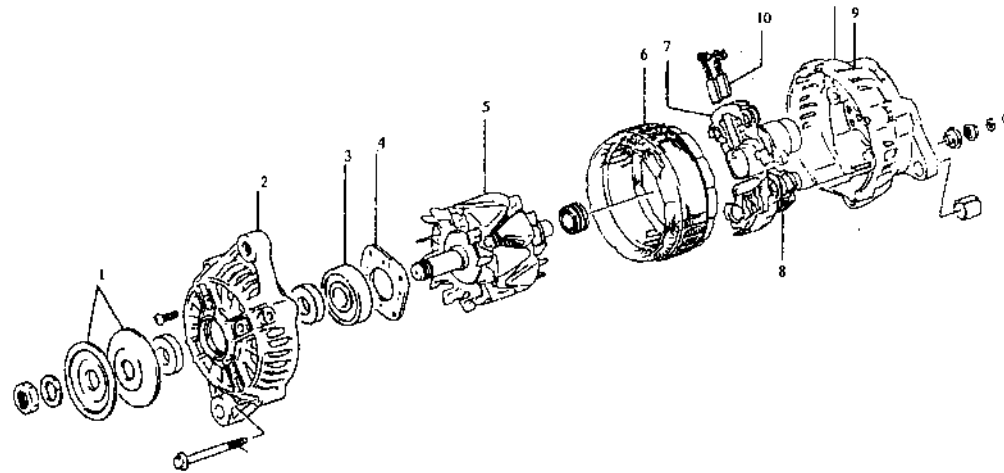

Figure 6.1-4
2. Knocking Down (See Figure 6.1-4)